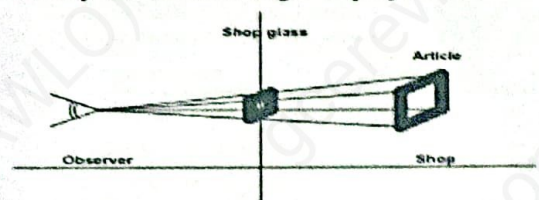

Figure 5
26. Window shopping is represented in the figure 5. Identify the dihedral angle of projection.